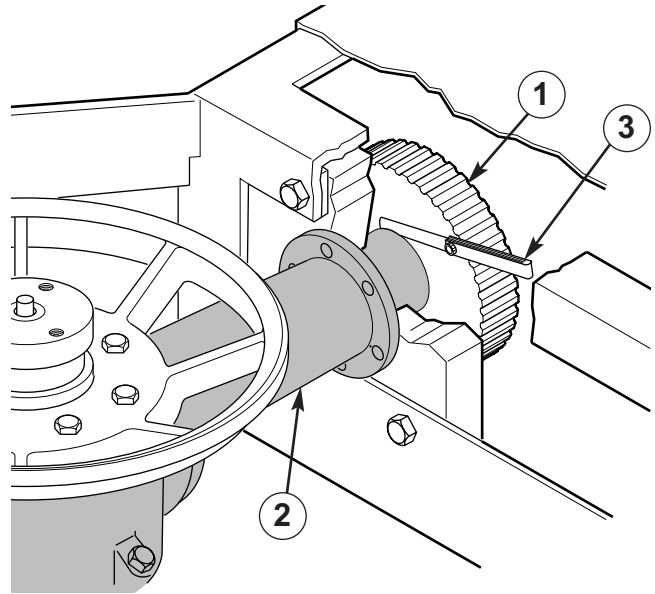

Figure 35 — Set end play of .004" between housing and pulley. (1) Impeller Drive Pulley, (2) Bearing Housing, (3) Feeler Gauge
**Impeller drive pulley “end play”:** Set a .004" clearance between bearing housing and timing pulley with a feeler gauge (see “Tools”, page 73). Keep shaft pulled out as far as it will go during this adjustment. Tighten pulley set screw, Figure 35.